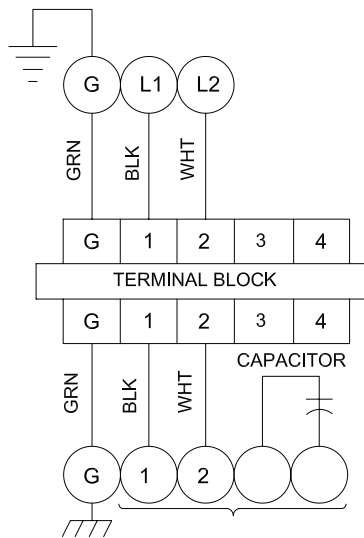

Figure 8 - 120/240 Volt, 1Ph
Lower housing (10) down onto seal plate (8) while aligning holes and stringing motor leads through the cord entry bore. Place cap screws (7) through seal plate (8) into housing (6) and torque to 60 in-lbs. Reconnect motor leads to the underside of the terminal block (12), as shown in Figure 8. Note that the pins are numbered underneath the terminal block.